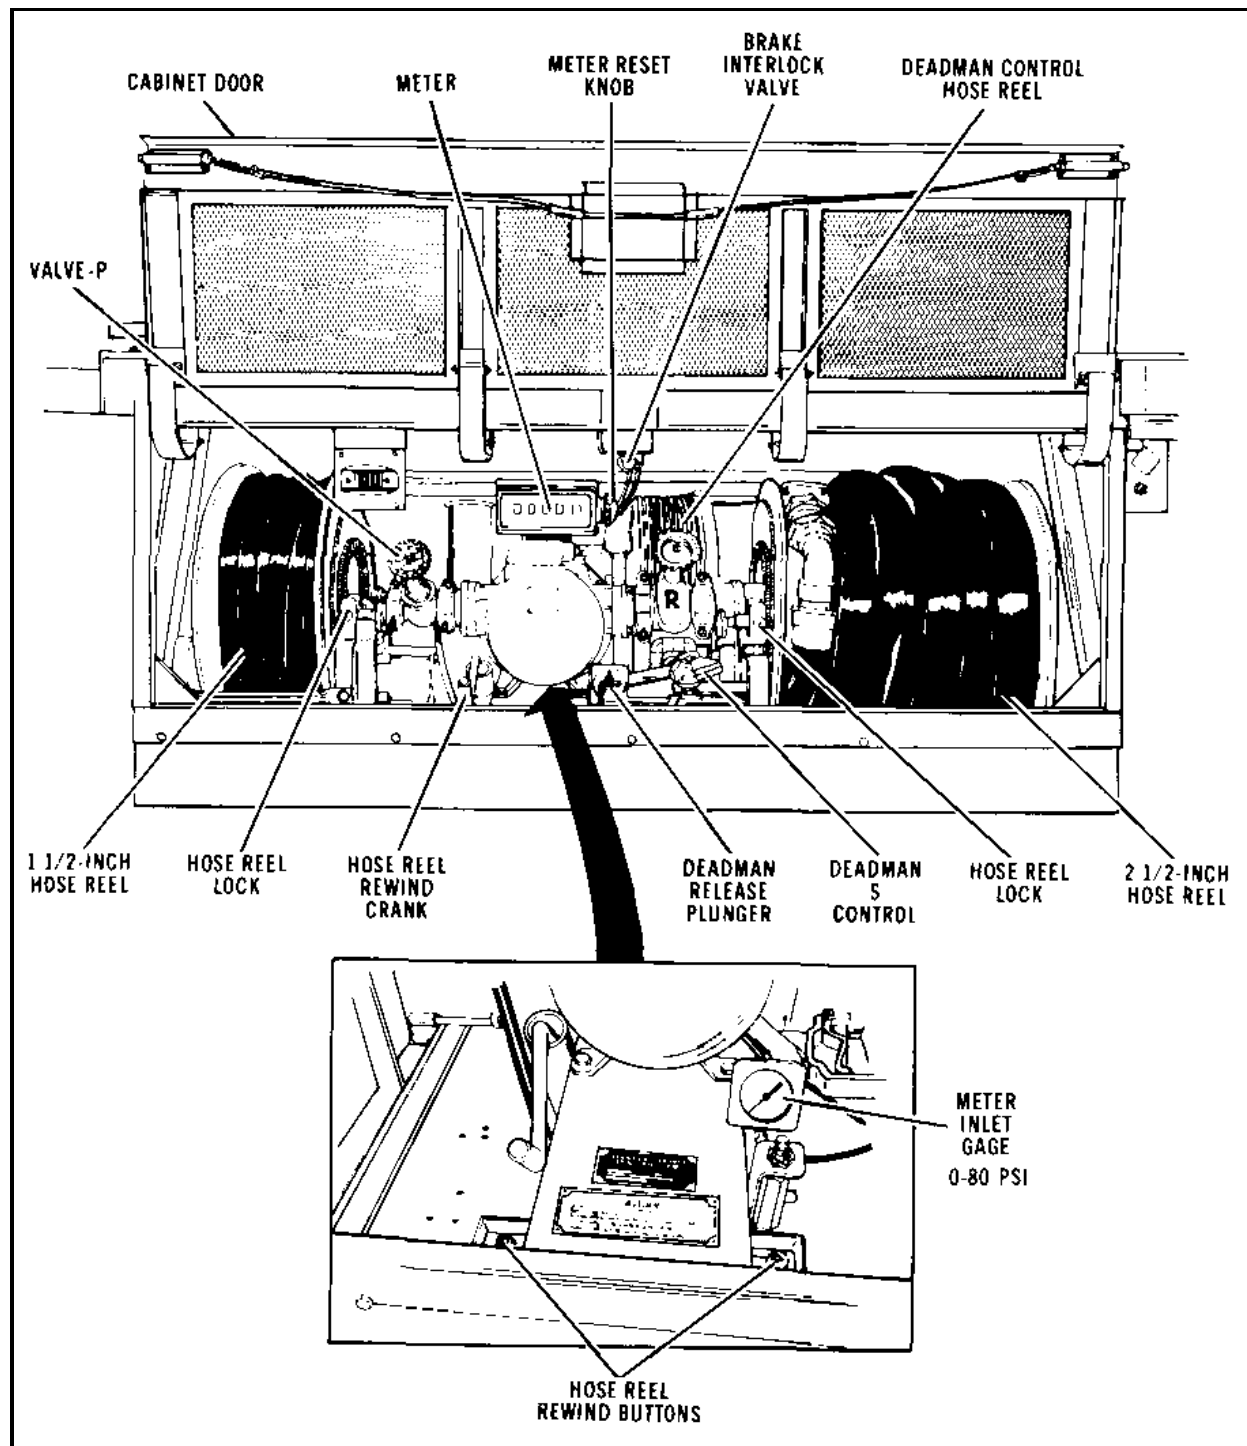

Figure 24-23. Hose reel cabinet of M970 tank semitrailer
- **Tank body and equipment.** In addition to the equipment on the M967, the M970 has special-purpose equipment required for overwing and underwing aircraft refueling. This equipment is mounted on the sides of the vehicle. A filter/separator, a pump and engine compartment, the engine's fuel tank, a landing gear crank, an emergency shutoff valve, a hose trough, and a battery compartment for two batteries are on the curbside of the vehicle. A hose trough, a portable grounding rod, a ground board, a toolbox, a piping assembly, a control panel, the manifold valving, and a hose reel cabinet as shown in Figure 24-23, page 24-21, are on the roadside of the vehicle.